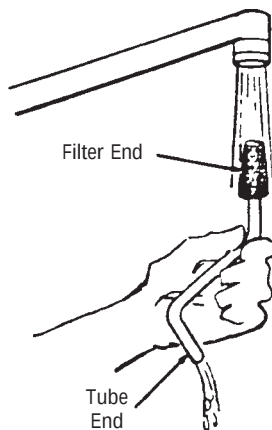

Figure 5-5
3. If filter appears clogged or coated with debris, clean by reverse flushing with water (Figure 5-5). If filter cannot be effectively cleaned, (i.e., it remains clogged) replace the filter (P-129357-645).